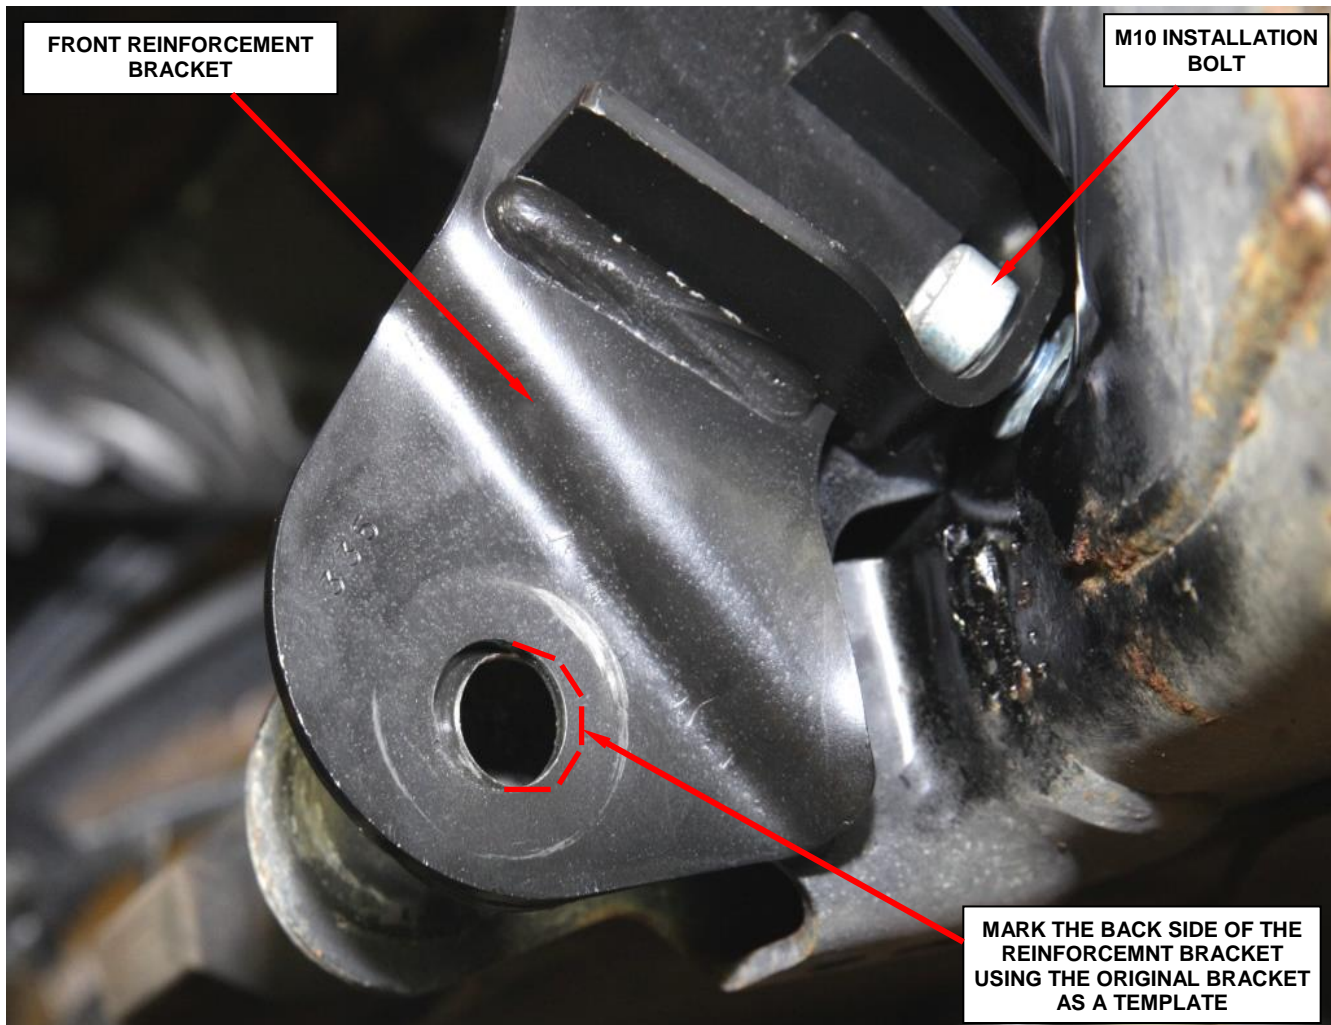

Figure 33 – Mark Backside of Reinforcement Bracket
3. Mark the M18 hole on the reinforcement bracket for the track bar bolt (Figure 33).